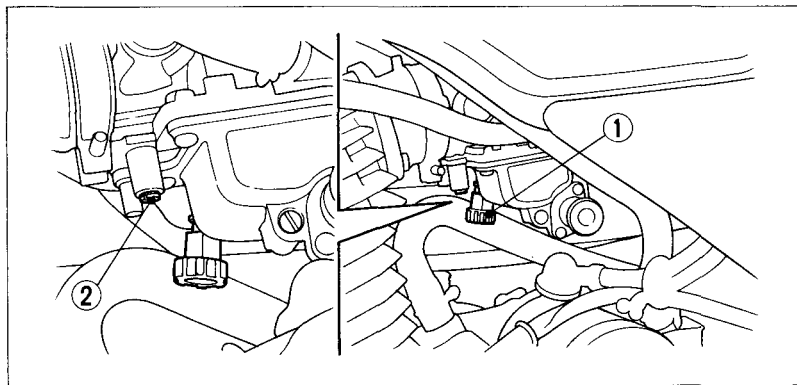

Fig. 4-9 (1) Throttle stop screw (2) Pilot screw
2. Adjust idle speed by turning the throttle stop screw (Fig. 4-9).